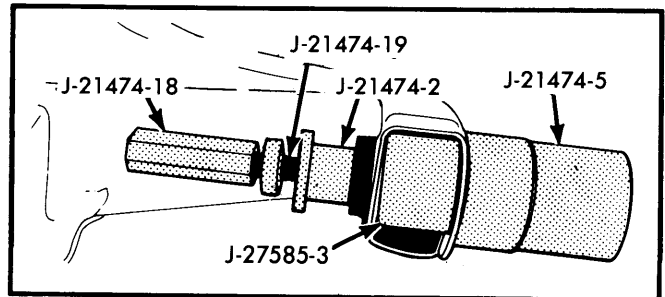

Fig. 4 Lower Control Arm Bushing Removal
**Bushing Service** — With lower control arm removed from vehicle, spray bushings with silicone lubricant and install suitable tools as shown in Fig. 4. Press bushings out of lower control arm. Install new bushings and reverse removal procedure to complete assembly. Check riding height and wheel alignment.